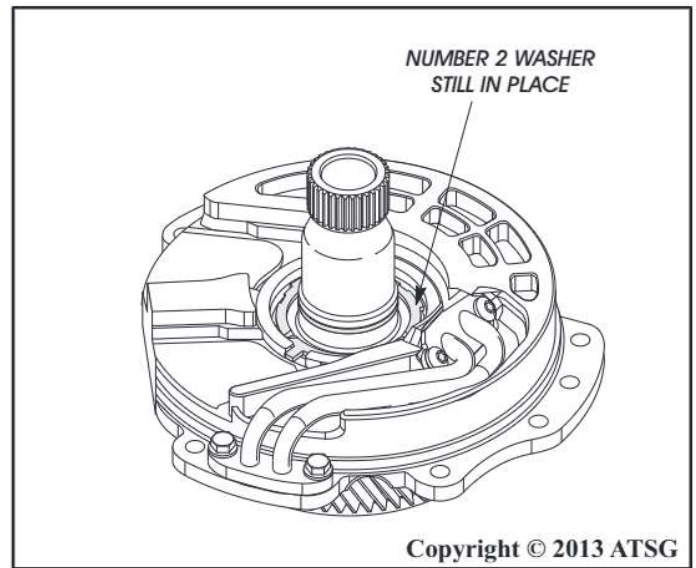

Figure 123
- Note: Ensure that number 2 thrust washer is still in place before installation, as shown in Figure 123.**